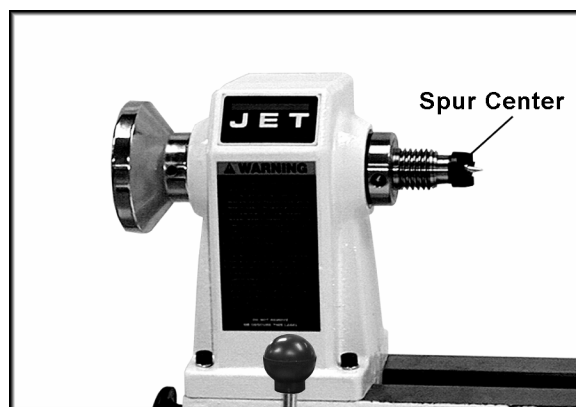

Figure 5
**Spur Center** (Figure 5) – Slides into headstock and holds the workpiece during spindle turning.